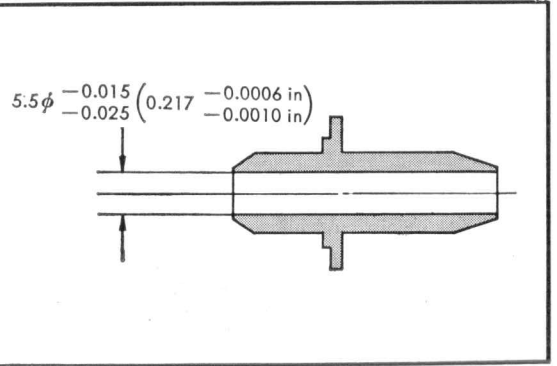

Figure 3-28. Valve guide
- (1) Inlet and Exhaust Valve Guide. (Fig. 3-28, 3-29)